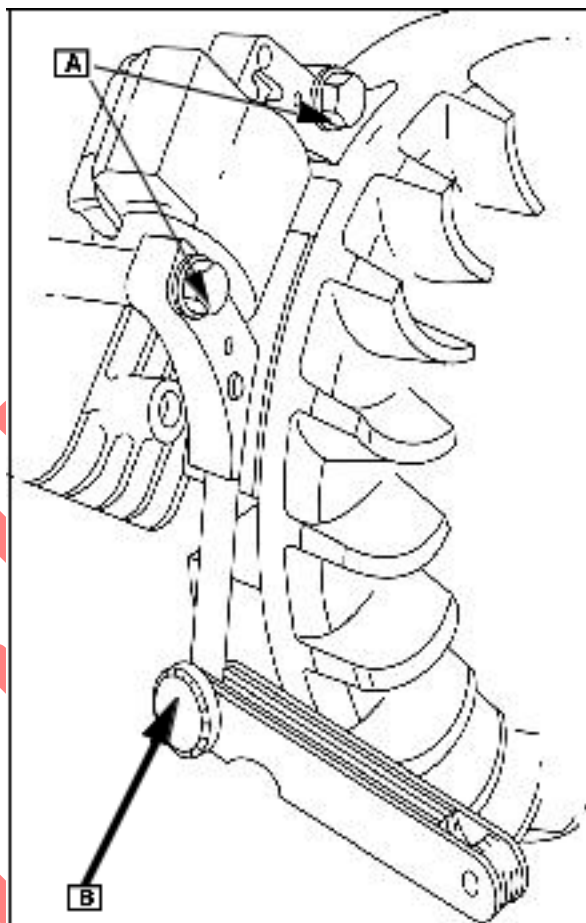

Fig. 11
2. Loosen both armature mounting screws (A) and pull armature away from flywheel. Snug one screw. Insert the proper thickness gauge ([B] Fig. 11) between armature and flywheel.
Turn flywheel. Loosen screws and allow the magnets to pull armature against thickness gauge ([B] Fig. 11).